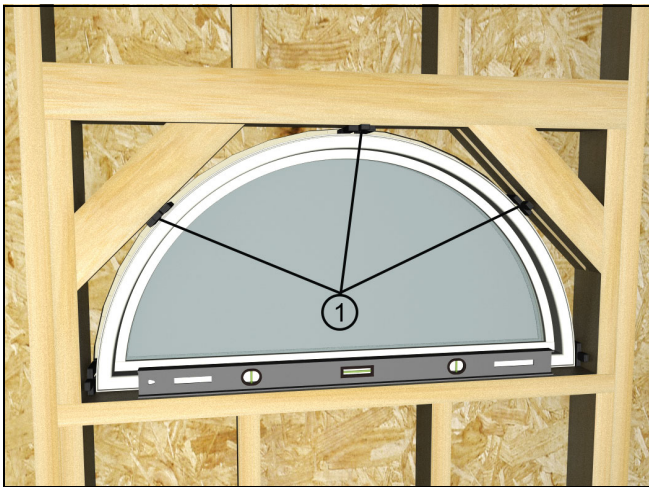

Figure 21
6. On round tops and other non-rectangular shapes, make sure to shim at bracing locations. See Figure 21.